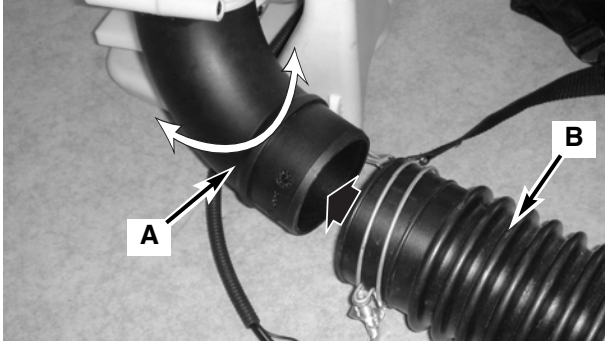
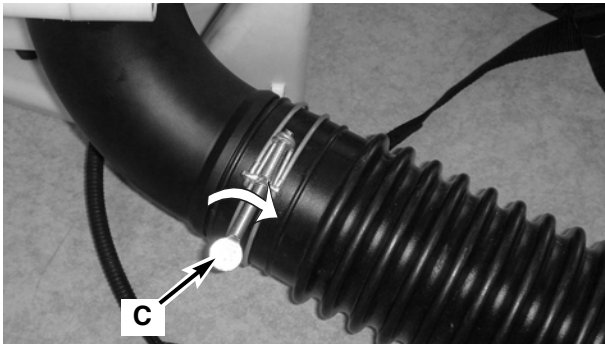

Fig. 1
Fig. 2
Connect the flexible tube (B) to the fan's outlet tube (A) (Fig. 1) with a hose clamp (C) (Fig. 2) and tighten securely (Fig. 2).